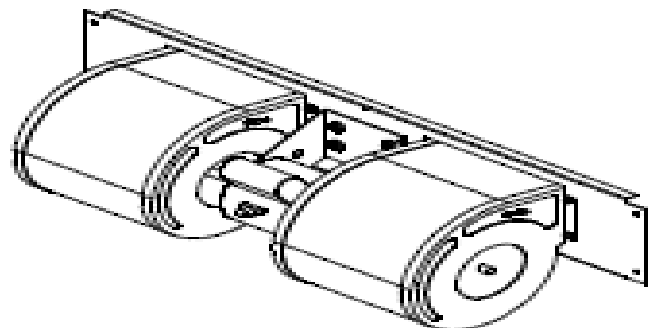

Figure 9: Blower Assembly and Mounting Screw Location
3. Remove the four (4) screws that secure the motor guard to the control box.
4. Remove the control box cover by removing the four (4) screws that are securing the cover to the Air Handler unit.
7. Remove the two screws on the blower mount plate located on the right side, the left side, the screw on the top center and the screw in the control box. Refer to Figure 9 for screw locations.
21. Replace the two screws on the blower mount plate located on the right side, the left side, the screw on the top center and the screw in the control box. Refer to Figure 9 for screw locations.